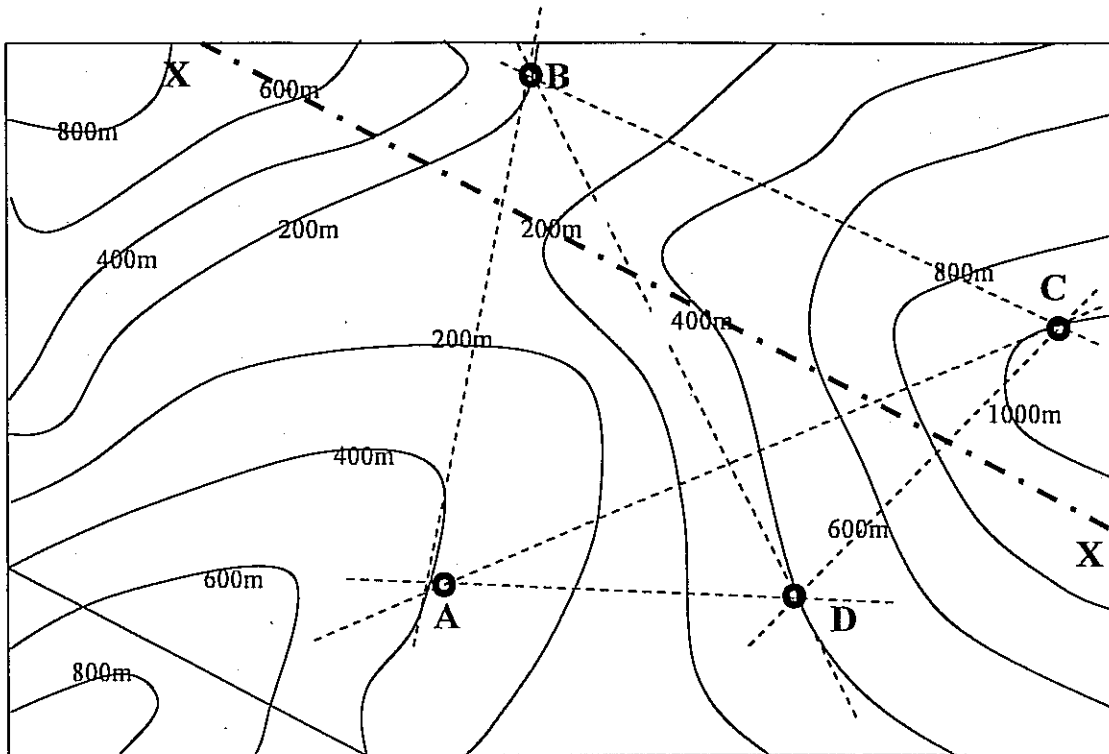

Figure Q8.1
- (Q8) The below given Figure Q8.1 is an area topographic map which shows 04 borehole locations (A, B, C and D) done to investigate the area geology for the construction of a new tunnel. The proposed tunnel axis is shown as X-X.
Since map shown in above Figure Q8.1 is not drawn to a scale, following Table Q8.1 provides the map details.